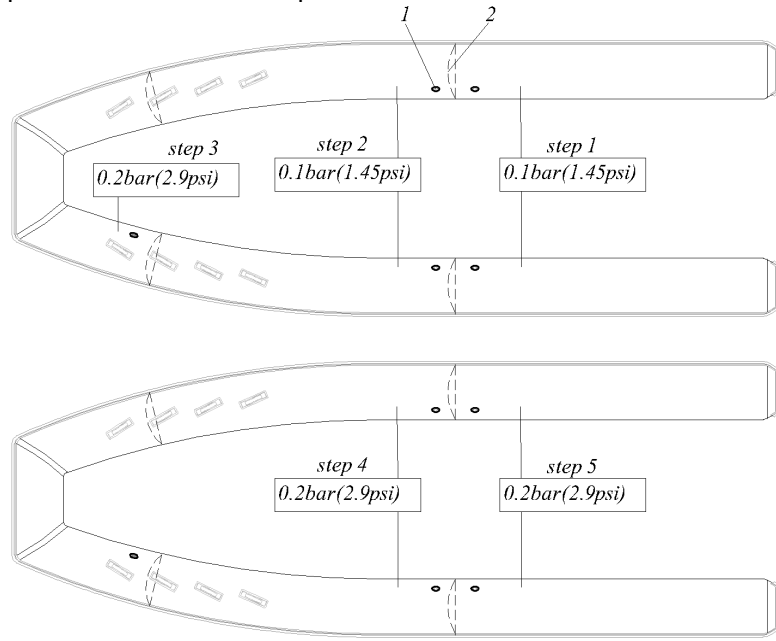

Fig.4a
Use the supplied pump to inflate the tube. Inflate the tube step by step as shown in Fig. 4a.
**Step 1.** First fill the two rear compartments to a pressure of 0.1bar (1.45 psi). This is necessary for the partitions (2) (Fig.4a) to take the correct position inside the tube.